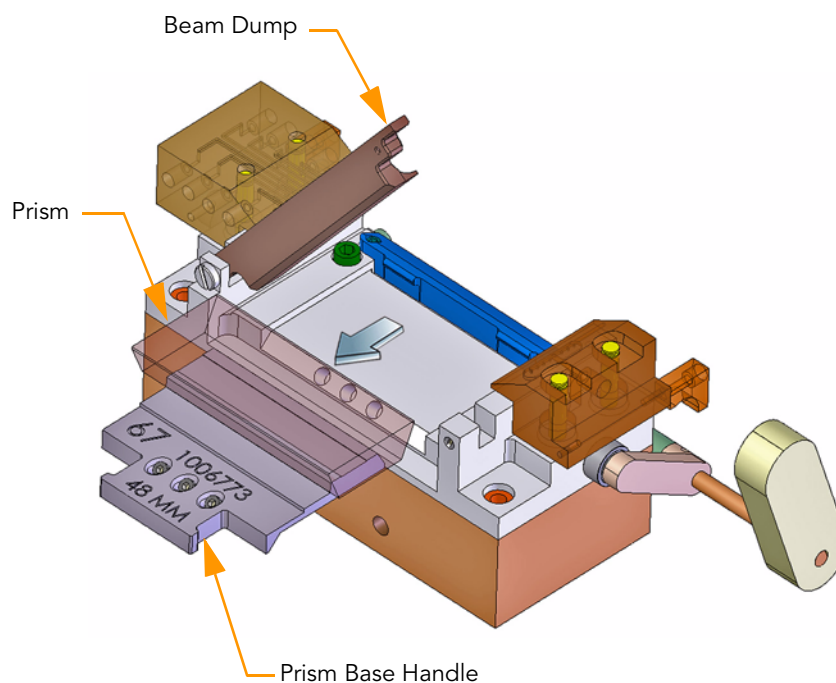

Figure 43 Remove the Prism
9. Hold the metal prism base by the prism base handle and slide the metal prism base to the left to remove the prism (Figure 43).